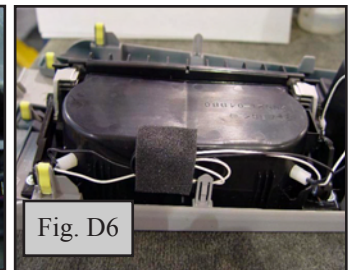

Fig. D6
5. Use adhesive pad to secure wires. (Fig. D6)